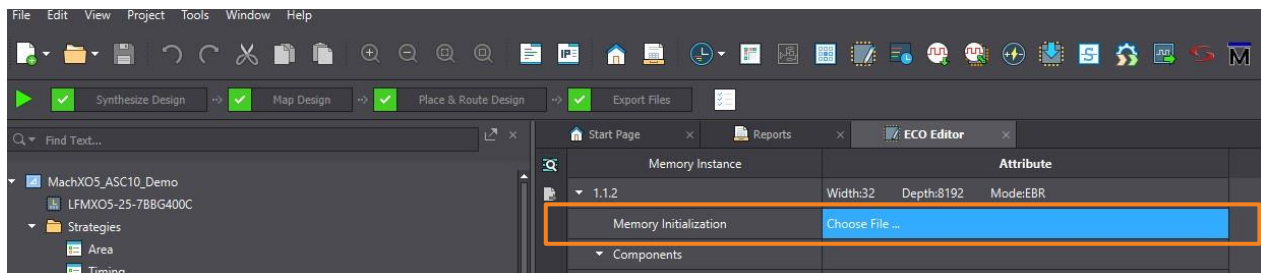
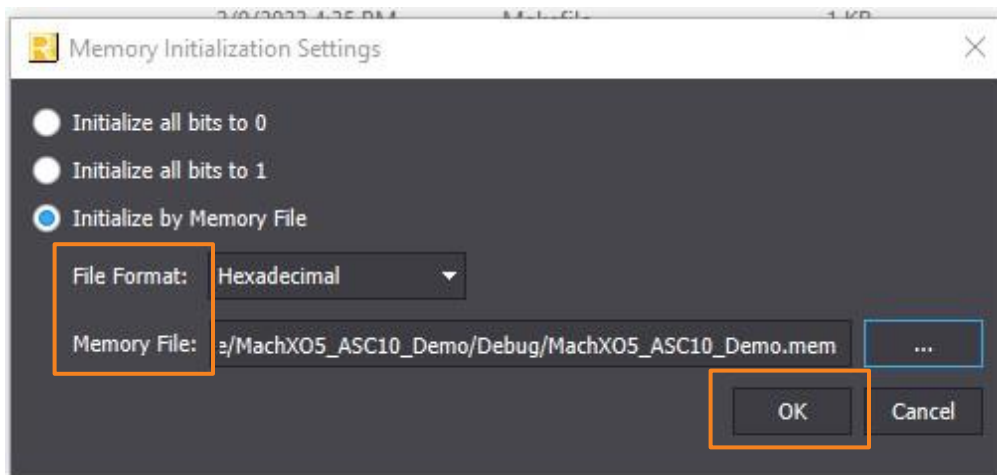

Figure 3.58. Radiant ECO Editor – Choose File
Figure 3.59. Radiant ECO Editor – Settings
- Double-click the **Choose File** as shown in Figure 3.58, and the **Memory Initialization Settings** window will open, shown in Figure 3.59.